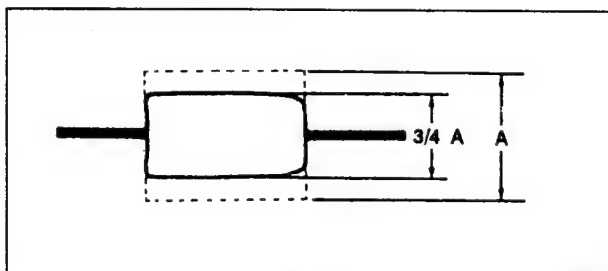

Fig. 44
- 1) Confirm that the amplitude of RF waveform is reduced to approx. 3/4 when the track shift mode is set (Fig. 44).